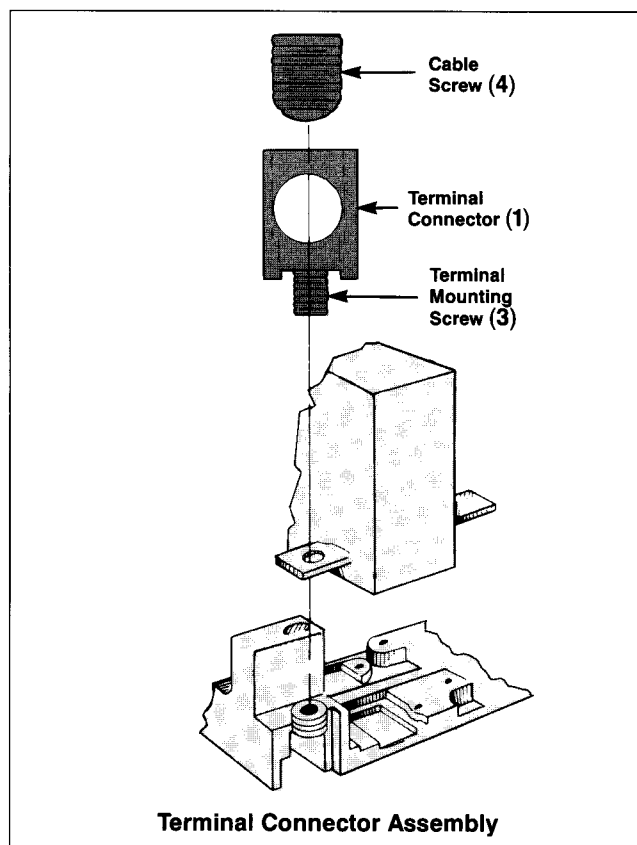

Figure 1
- Place terminal connector body (1) (Figure 1) into terminal cavities (2) (Figure 2).
- Torque terminal mounting screw (3) to specified torque value.
- Place cable set screw (4) into threaded body opening. After cable has been inserted into cable cavity, torque cable set screw to specified value.